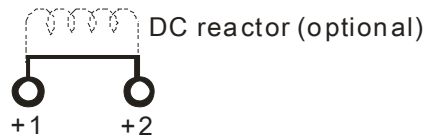

Figure 5-2
- Use the terminals, as shown in Figure 5-2, to connect a DC reactor to improve the power factor and reduce harmonics. A jumper is connected to these terminals at the factory. Remove that jumper before connecting to a DC reactor.